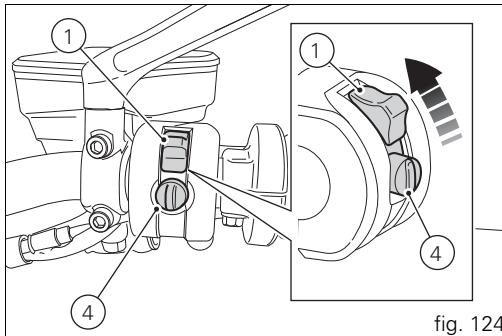

fig. 124
Move the red switch (1) up to uncover the black button (4, fig. 124).
The engine will shut off by turning the red key (1, fig. 124) on the handlebar to RUN OFF.